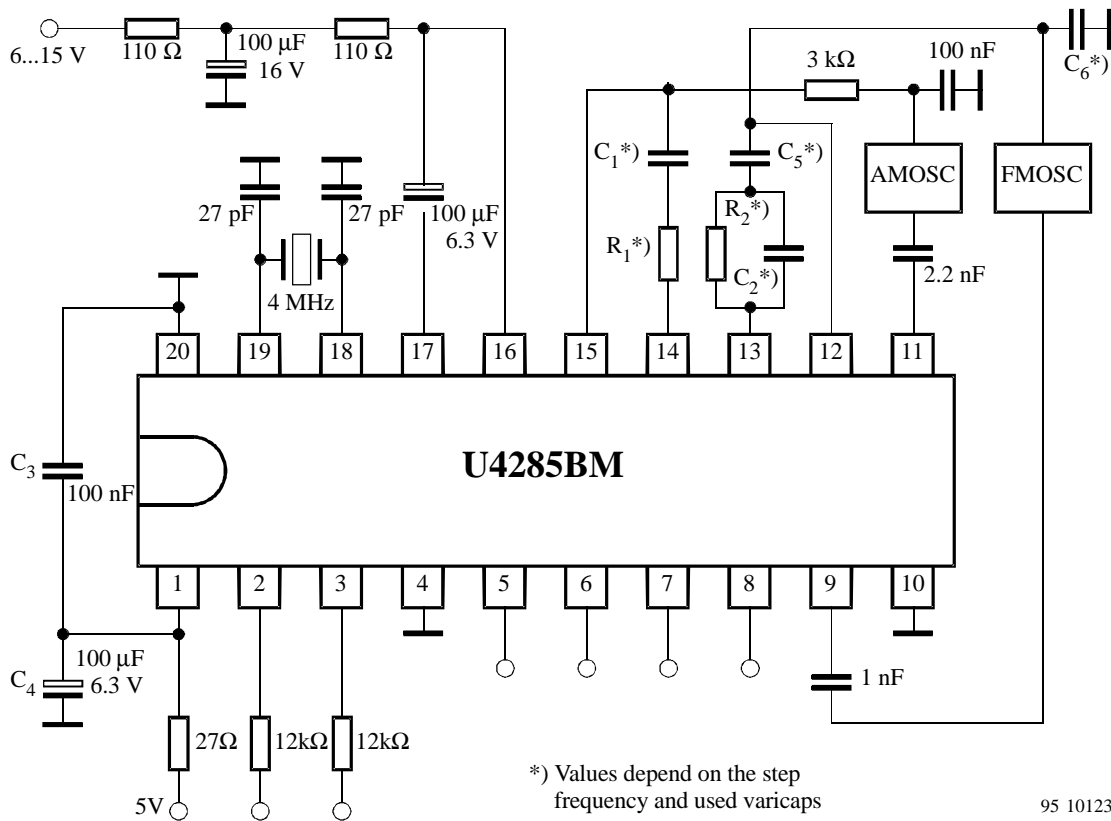

Figure 8. Application circuit
- GND 2 (Pin 10 – analog ground) and GND 1 (Pin 20 – digital ground) must be connected according to figure 8